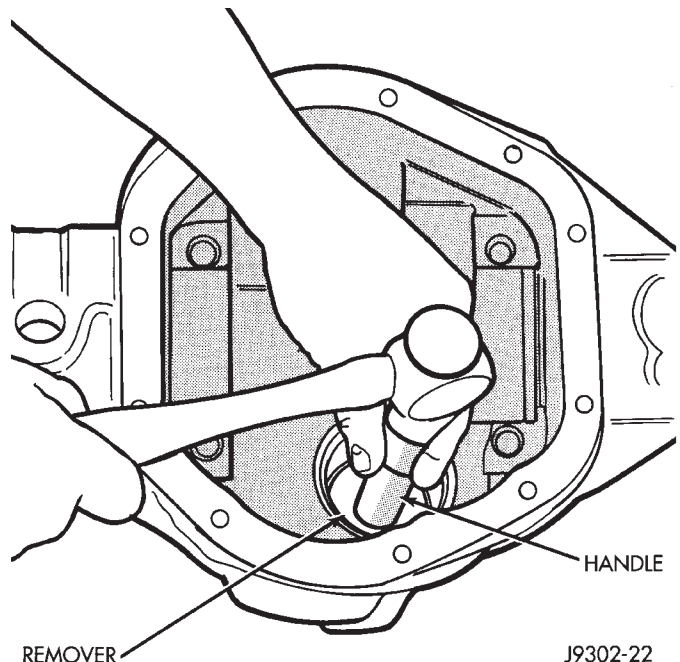

Fig. 25 Front Bearing Cup Removal
- (7) Using a suitable pry tool, or a slide hammer mounted screw, remove the pinion seal.
- (8) Remove oil slinger, if equipped, and front pinion bearing.
- (9) Remove the front pinion bearing cup with Remover C-4345 and Handle C-4171 (Fig. 25).